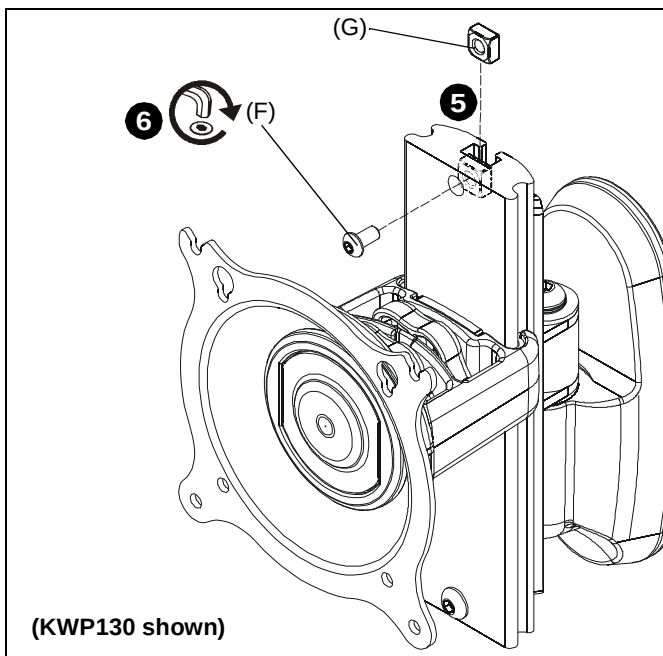

Figure 7
5. Install 1/4-20" square nut (G) into the top of the back groove of array (A1 or A2) and line up with top hole on plate. (See Figure 7)
6. Install 1/4-20 x 1/2" button head cap screw (F) into upper hole on array and through square nut (G). (See Figure 7)